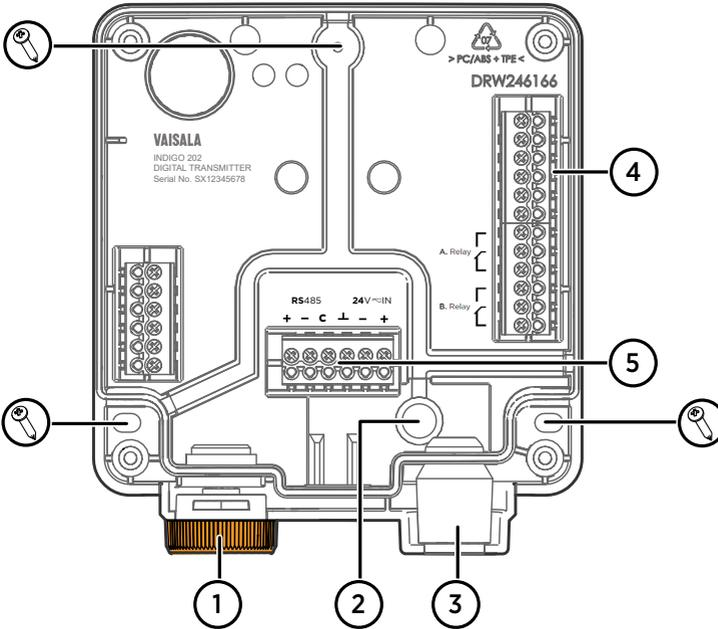

Figure 6 Indigo 202 transmitter base main parts and mounting screw positions
5. Place the transmitter base on the installation surface and mount it with 3 screws. See the screw positions in Figure 6 \(page 16\).